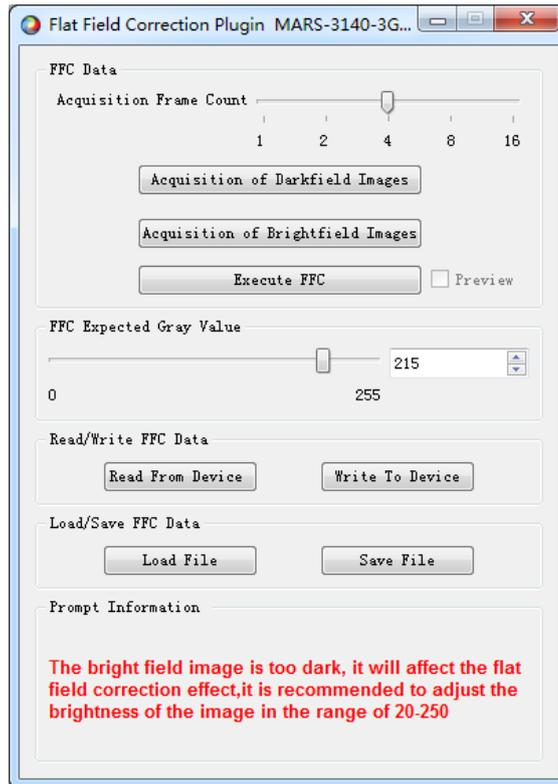

Figure 9-16 The brightfield image is too dark
- 4) If the brightness of the acquired brightfield image is less than 20, the prompt box will prompt that the acquired brightfield image will affect the effect of flat field correction, as shown in Figure 9-16. In this case, it is recommended that you adjust the image brightness to 20~ 250, and then re-acquiring the brightfield image.